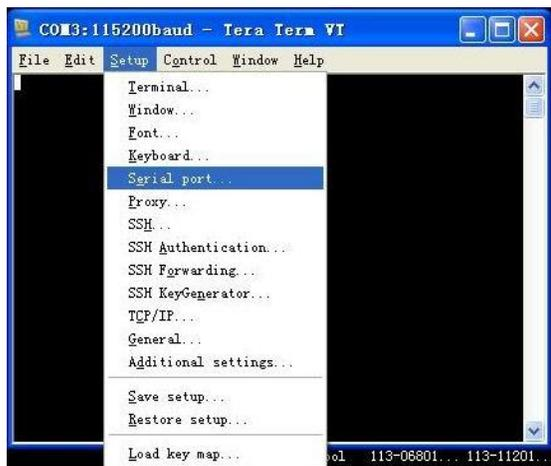
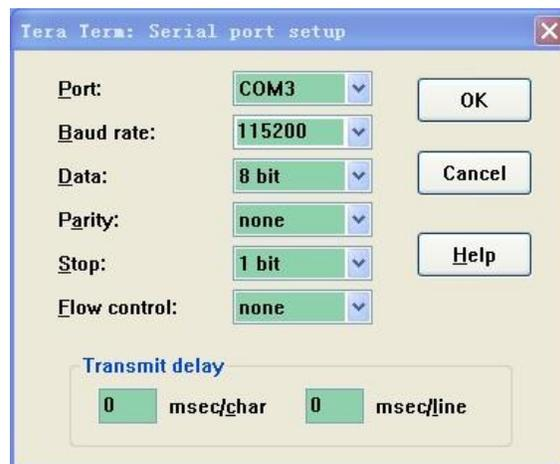

Fig. 1
Fig. 2
- 2) **Setup PC** Start Tera Term. Setup serial port by clicking on “Setup -> Serial port” (Fig. 1). The serial port setup window shows (Fig. 2). You need to know the port number that connects your scope. If you don’t find it out by going to Windows device manager. Then select the port from the pull-down list. Set port parameters to 115200 bps baudrate and 8-N-1 data format as indicated in Fig. 2.